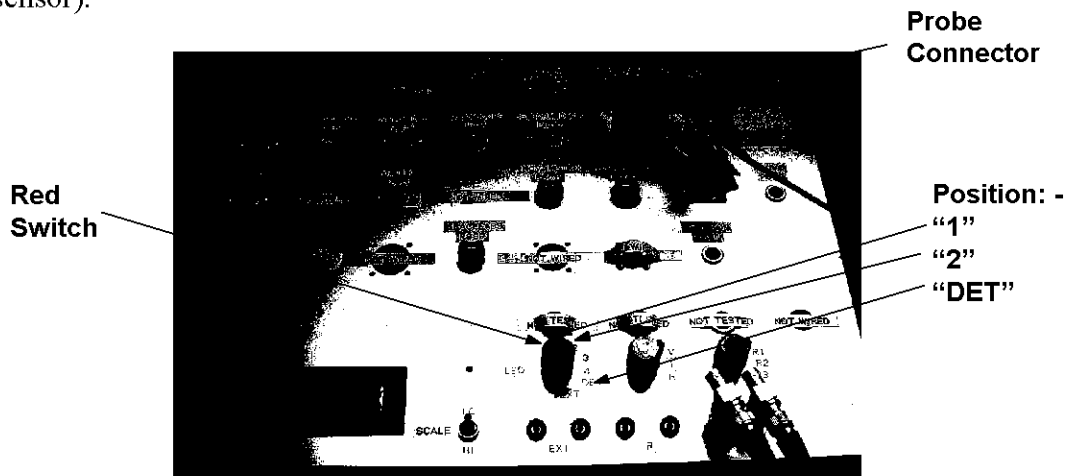

Fig 1.1
1. Attach the connector to the QA Test box in the relevant socket (Fig 1.1 "example").